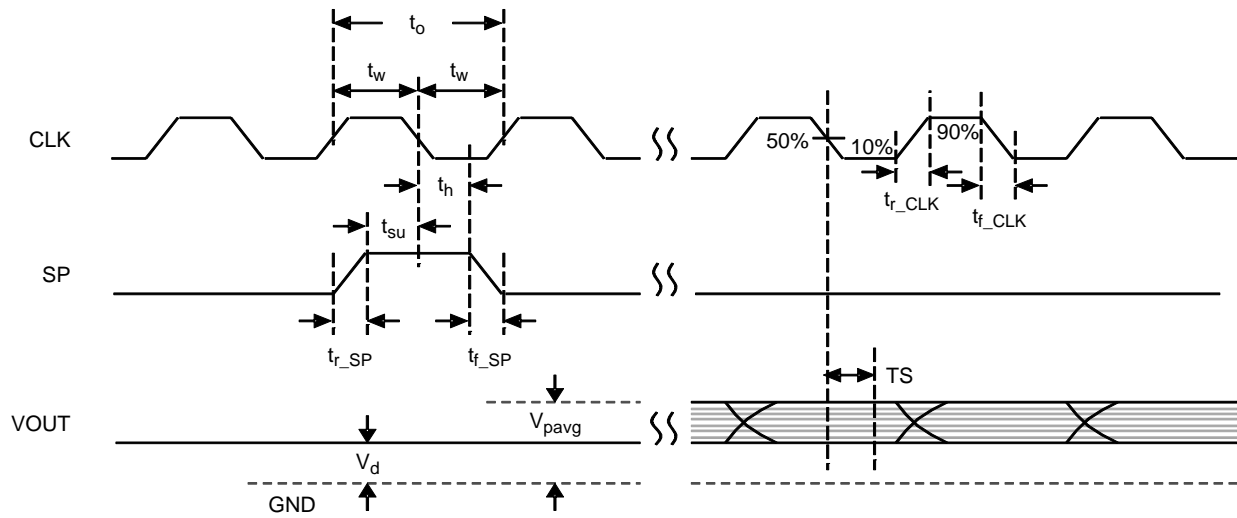
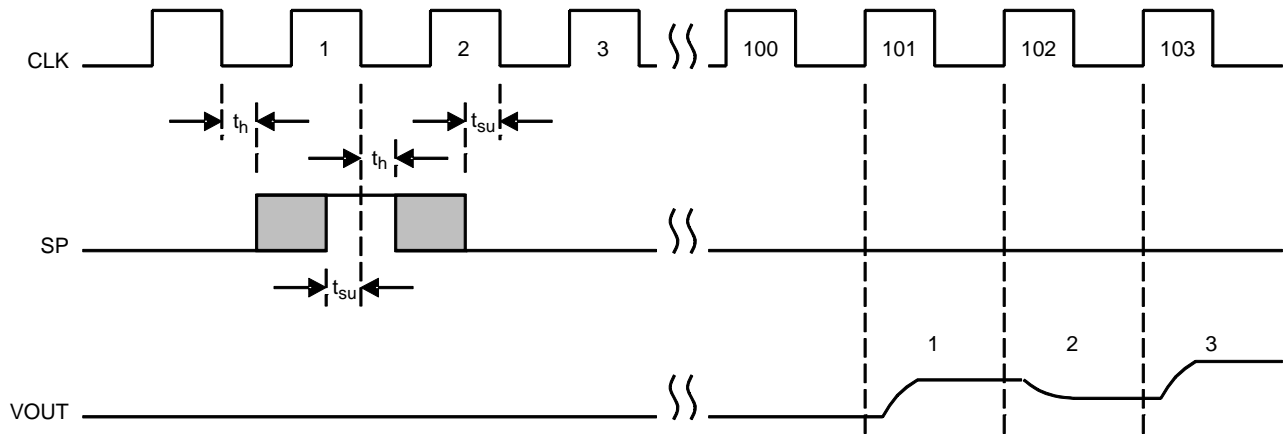

Figure 4. Rise and Fall Times for 600/400/300/200 dpi Modes
Figure 5. SP Timing to the First Pixel for 600/400/300/200 dpi Modes
2. Refer to Figure 4 for more information on AC characteristics
8. The shift register loads on the falling edge of CLK, therefore setup and hold times (t_{su}, t_h) are needed to prevent loading of multiple start pulses. This would occur if SP remains high during two fallings edges of the CLK signal. See Figure 4.
Figure 4 and Figure 5 detail the timing of the CLK, SP, and VOUT signals in further detail, they have the same timing requirements for the 600, 400, 300 and 200 dpi modes. The
rise and fall times are listed in Table 4. In Figure 5, note that clock 101 is the first active pixel, as the first 100 clocks produce dummy pixels (the output of the first 100 clocks should not be used for any purpose such as black level clamping).